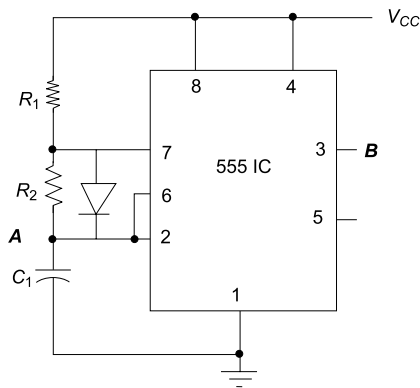

Fig. 9.63
8. Draw the voltage waveforms of the Fig. 9.63 at A and B.